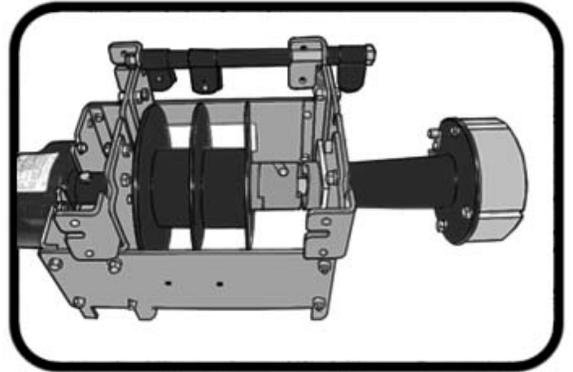

Fig. 1
**Step 1:** Access the mechanism motor end. Release the motor end from the housing and the roll-up tube. Pull the motor end from the Housing and place it on an uncluttered, level surface. **(Fig. 1)**